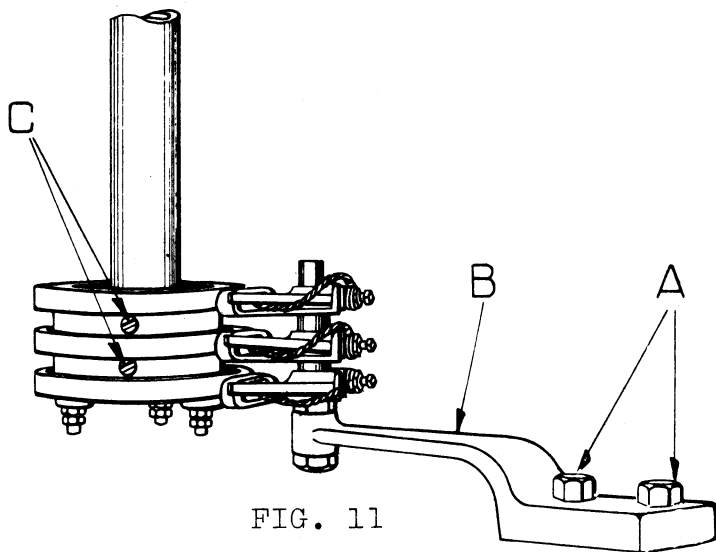

FIG. 11
(Refer to Fig. 11)
1. Disconnect the machine electrically from the main lines and then remove two screws "A", figure 11.